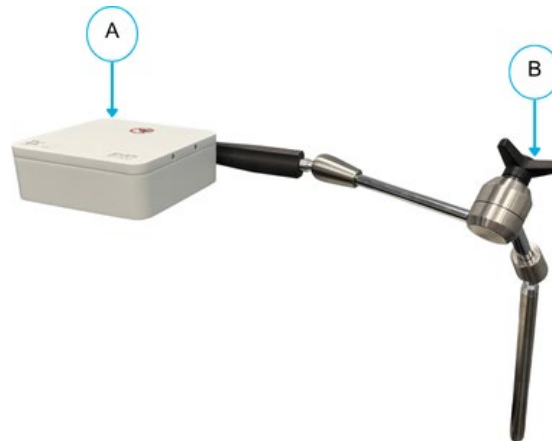

Figure 12-3: Field Generator
1. Hold the Field Generator (A) firmly. Ideally, with both hands (Figure 12-3).
2. Loosen the Field Generator Adjustment Knob (B) until there is freedom of movement of the Field Generator.